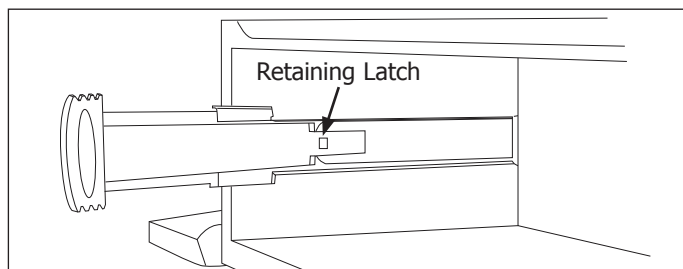

Figure 4-22.
4. From inside the air duct, pull back on the air vent handle to release the retaining tab on the vent linkage. Pull handle from air duct. (See Figure 4-22)